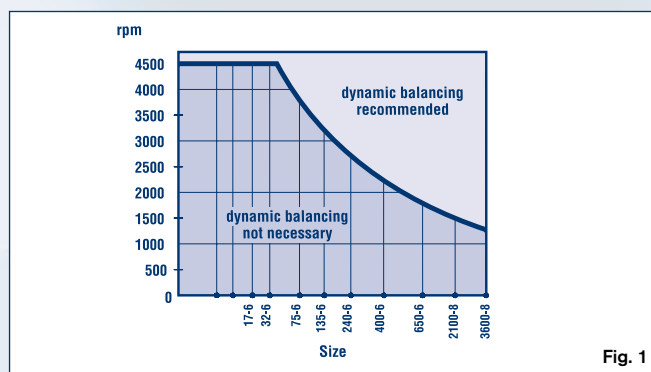

Fig. 1
6. Use Fig. 1 to verify if your coupling does or does not need to be dynamically balanced.
The balancing class of the standard elements is Q6,3 - VDI 2060 medium speeds. Balancing is recommended only over speed curve of Fig. 1.